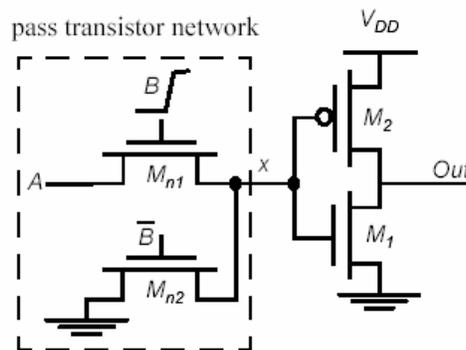

Figure 4.1
- Pass Transistor Logic:** Consider the circuit in Figure 4.1. Assume the inverter switches ideally at $V_{DD}/2$, neglect body effect, channel length modulation and all parasitic capacitance throughout this problem.
- Replace the pass-transistor network in Figure 4.1 with a *pass transistor* network that computes the following function: $x = ABC$ at the node x. Assume you have the true and complementary versions of the three inputs A,B and C.